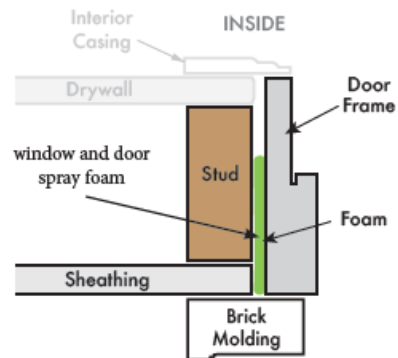

FIG 6
- Seal between the door frame and rough opening with window and door spray foam FIG 6